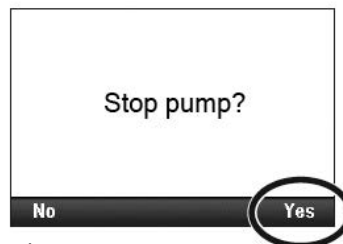

Figure 11:
2. When **Stop Pump?** appears, press the key under **Yes**. See Figure 11.